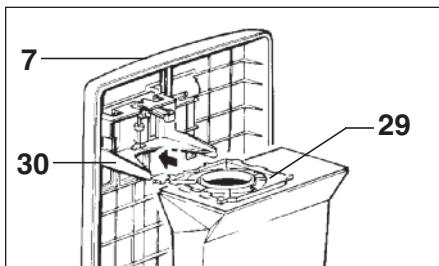

Figure 9
### Changing the Dust Bag - *Figure 9*
2. Bag not inserted properly	2. Reinsert bag with cover release flap (5) up, until firmly latched in bag holder (see pg. 8, figure 9).